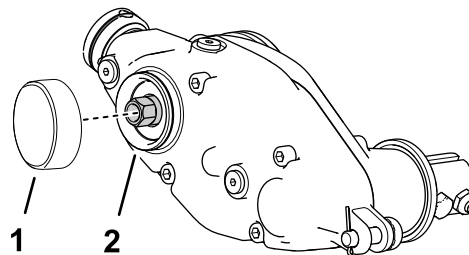

Figure 14
1. Apply medium-strength cylindrical bonding retaining compound (such as Green Loctite 609®) around the snap ring groove and the outer diameter surface (Figure 14).
2. Install the cap as shown in Figure 14.